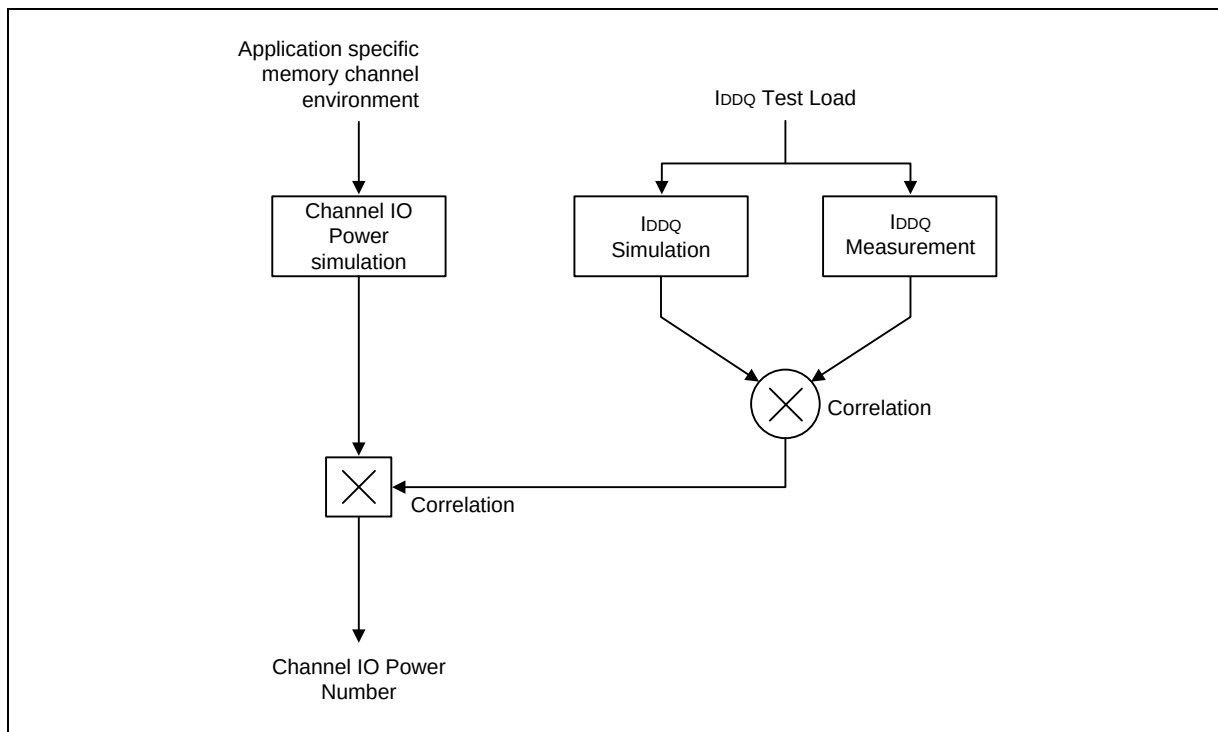

**Figure 106 – Correlation from simulated Channel IO Power to actual Channel IO Power supported by  $I_{DDQ}$  Measurement**
**Attention:** IDDQ values cannot be directly used to calculate IO power of the DDR3L SDRAM. They can be used to support correlation of simulated IO power to actual IO power as outlined in Figure 106. In DRAM module application, IDDQ cannot be measured separately since VDD and VDDQ are using one merged-power layer in Module PCB.